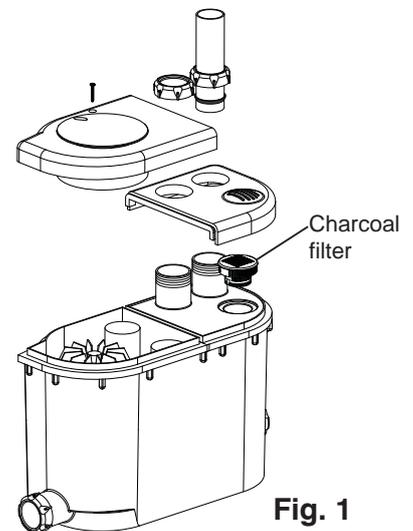

Fig. 1
- 6.19 Should the unit start to release odor's the charcoal filter should be changed (**Fig. 1**).